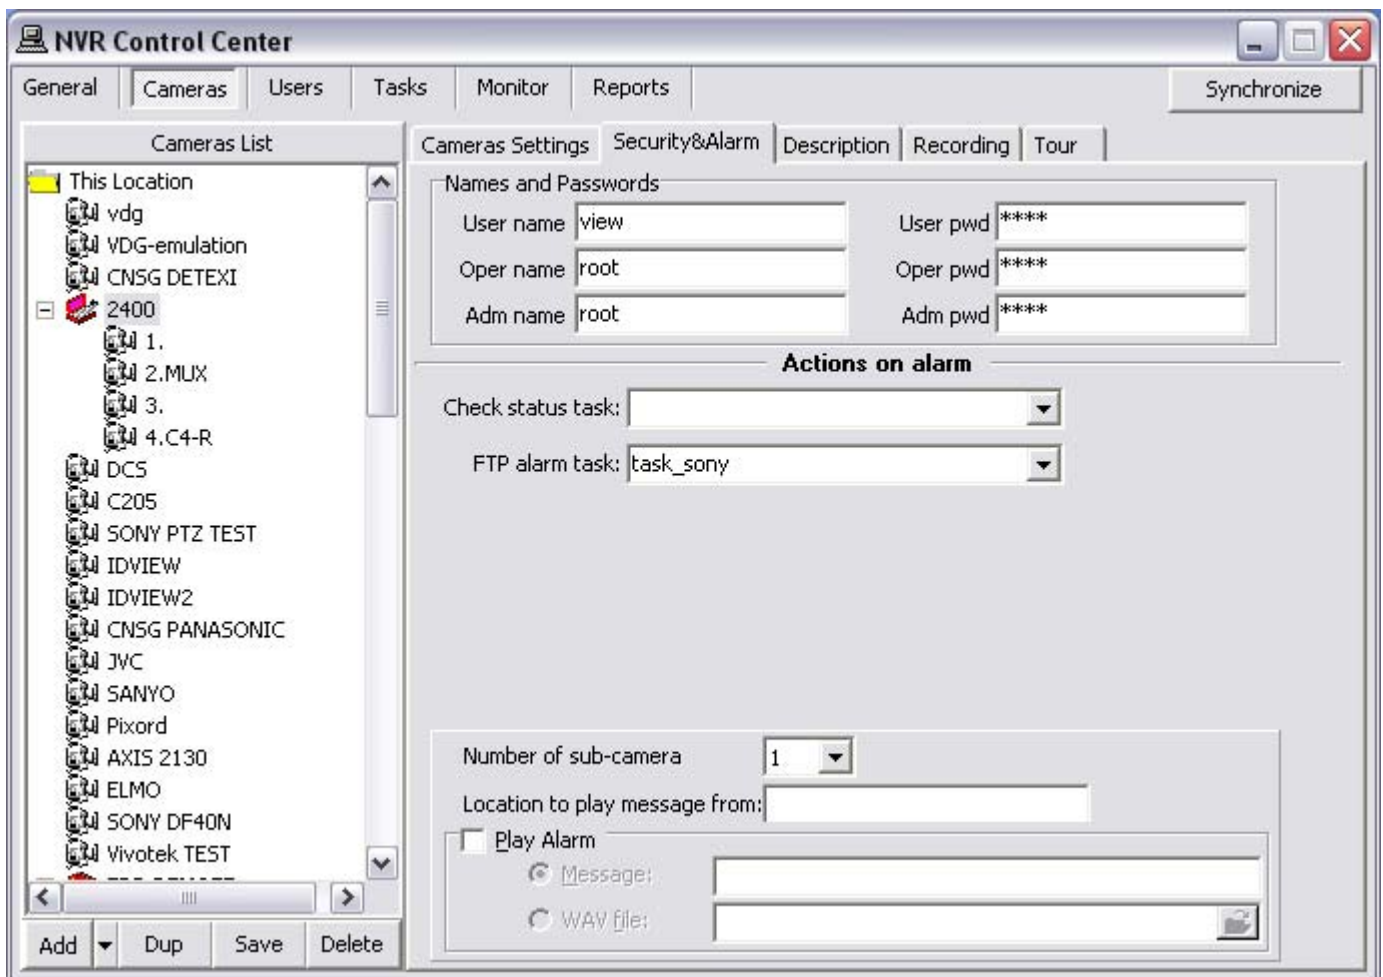

Fig 110. NVR Control Center — Cameras — Security & Alarm
2. Select camera to configure from the **Cameras List** and switch to the **Security & Alarm** (Fig 110).